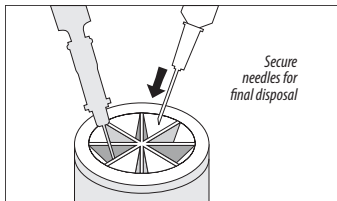

Figure 14
- Using one-handed technique, firmly push needles into disposal cup holes (refer to Figure 14).